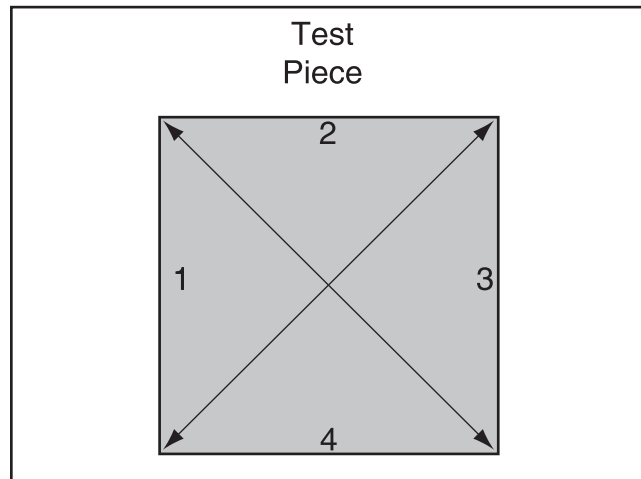

Figure 98. Fence adjustment test piece.
4. Measure the test piece diagonally from corner-to-corner as shown in **Figure 98**.